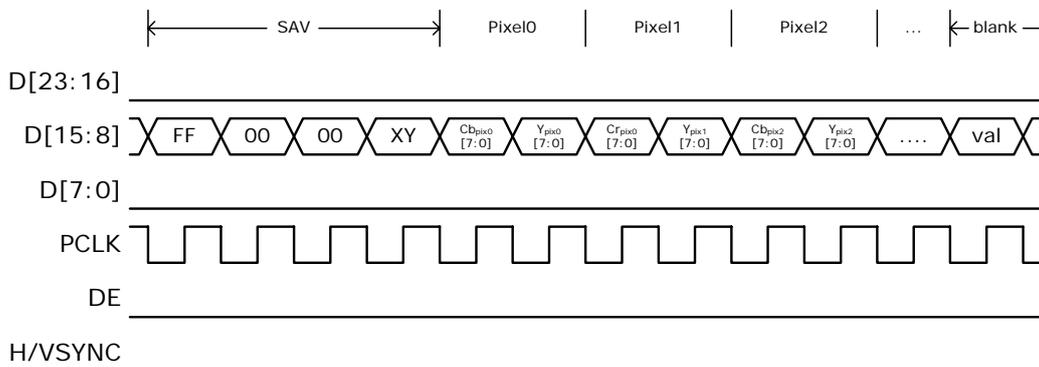

Figure 8. 8-bit CCIR-656
The CCIR-656 format is yet another variation of the YCbCr formats. The bus width is further reduced by half compared from the previous YCbCr 4:2:2 formats, to either 8-bit, 10-bit or 12-bit. To compensate for the halving of data bus, PCLK is doubled. With the double-rate input clock, luminance channel (Y) and chroma channels (Cb or Cr) are alternated. CAT6612 supports CCIR-656 format of up to 720p or 1080i, with the doubled-rate clock running at 148.5MHz. CCIR-656 format supports embedded syncs only. Figure 8 gives an example of 8-bit CCIR-656. 10-bit and 12-bit versions are similar.